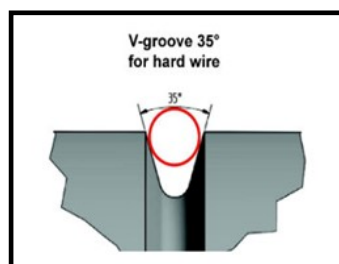
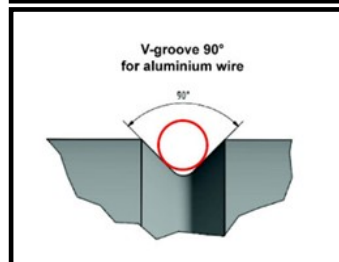
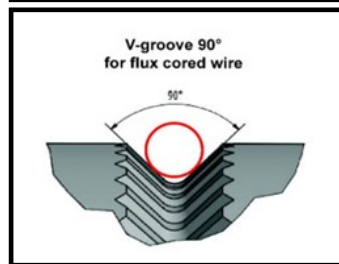

Fig. 11
Fig. 12
Fig. 13
- ⇒ Use the correct drive roll that matches the wire diameter and type. There are different sizes and shapes of drive rolls. For .023", .024", and .025" diameter wire, use a drive roll marked 0.6; for .030" wire, use a drive roll marked 0.8; for .035" wire, use a drive roll marked 0.9 or 1.0; for .045", .047", and 3/64" wire, use a drive roll marked 1.2. (**NOTE: Drive rolls are reversible; there are two different size grooves on the same drive roll. The number facing you when you install the drive roll in the machine is the diameter of the groove you are using.**) Also, different materials require different drive roll groove shapes. For instance, mild steel wire, stainless steel wire, and silicon bronze wire typically use a standard V shaped drive roll (**Fig. 11**). Softer aluminum wire uses a U shaped (V90) drive roll (**Fig. 12**). Aluminum drive rolls are designated by an "A". Flux-cored wire, whether used with or without gas, and most hard-facing wire, requires the use of a knurled drive roll—the little teeth provide extra traction on these wires (**Fig. 13**). This is designated by an "R" after the wire diameter.